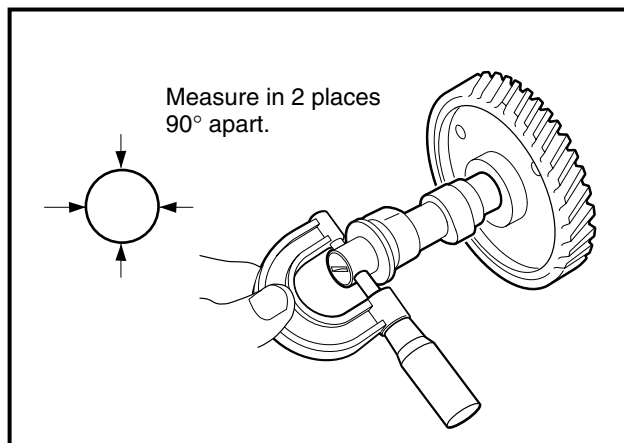
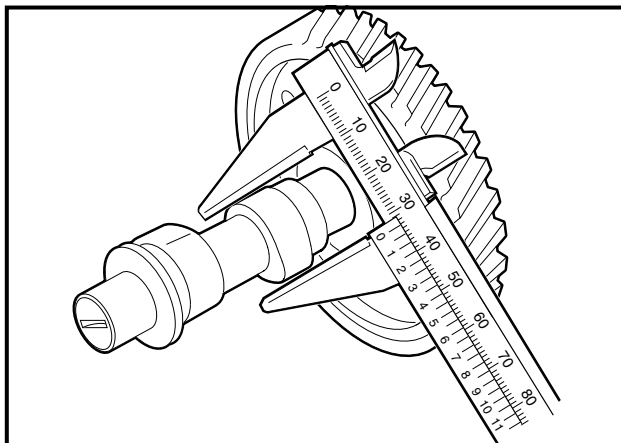

Figure 2-43 Measure O.D. of Camshaft Journals
Figure 2-44 Measure O.D. of Cam Lobes
3. Measure camshaft journals and cam lobes with a micrometer at the points shown (**Figure 2-43, Page 2-22 and Figure 2-44, Page 2-22**).